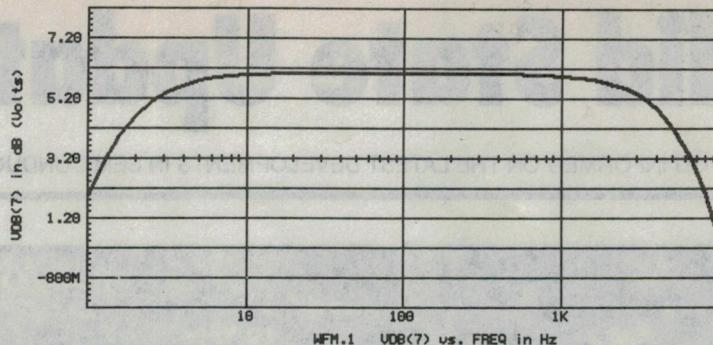

Fig.4: Here's a plot of the low-pass filter's frequency response, as produced by IntuSCOPE from the output simulation data from IsSPICE.
For example it was fairly easy to get a display or printout of my LP filter's frequency response with a dB scaling, either directly from the data provided by *IsSPICE* in response to the .PRINT VDB(7) statement (shown in Fig.4), or by having *IntuSCOPE*'s inbuilt 'calculator' convert the straight V(7) voltage data into dB. But I still haven't worked out how to get *IntuSCOPE* to shift the 0dB reference level to the curve's plateau, so that you can quickly spot the -3dB points, etc.